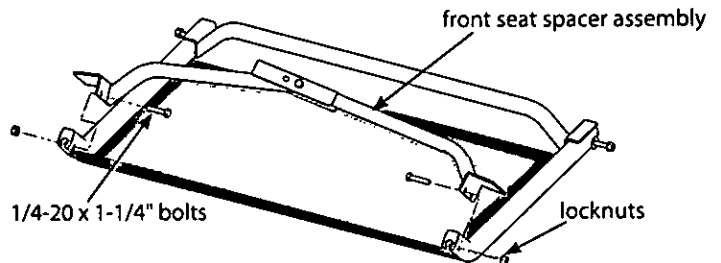
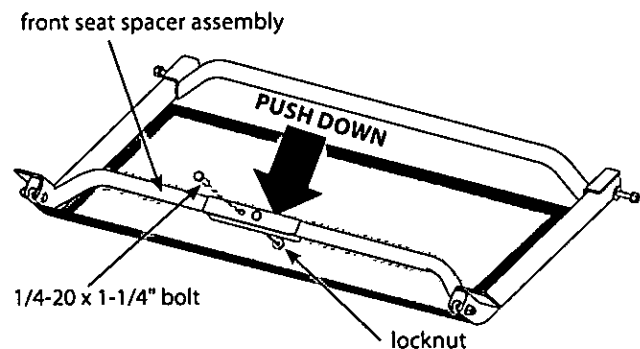

Figure 6b
Figure 6c
- c. Spread the front (bent end) of fabric rail mounts apart. Take the front seat spacer assembly (410115) and position angle brackets near holes in fabric rail mounts. **SEE FIGURE 6b.** Push the front seat spacer assembly downward into its widest position to spread seat apart and hold in place. Insert (2) provided 1/4-20 x 1-1/4" bolts through the fabric rail mounts and the angle brackets of front seat spacer assembly; secure with locknuts. While continuing to hold seat spacer in place, re-insert (1) provided 1/4-20 x 1-1/4" bolt through the locking hole of front seat spacer assembly and secure with locknut. **SEE FIGURE 6c.** Be sure that all four angle brackets (two on rear seat spacer and two on front seat spacer) are fully cradling the fabric rail mounts. This locking action is a tight fit by design in order to apply the correct amount of tension on the mesh seat. **You must now securely tighten the (3) 1/4-20 x 1-1/4" bolts and locknuts on the front seat spacer assembly.**